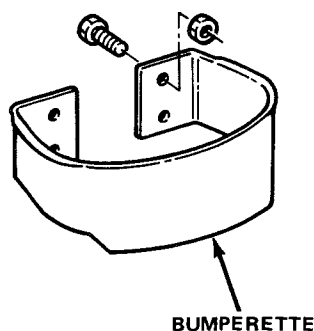

Fig. 3F-17 Rear Bumperette—CJ Models
- (1) Remove horizontal bumper guard (fig. 3F-18), from bumper end rail, if equipped.
- (2) Remove nuts, washers, spacers and bolts attaching bumper end rails to bumper center rail and arms.
- (3) Remove bumper end rail from vehicle.
- (4) Remove nuts, washers and bolts attaching bumper center rail to arms.
- (5) Remove bumper center rail from vehicle.
- (6) Remove nuts, washers and bolts attaching arms and braces to vehicle frame.
- (7) Remove arms and braces from vehicle frame.